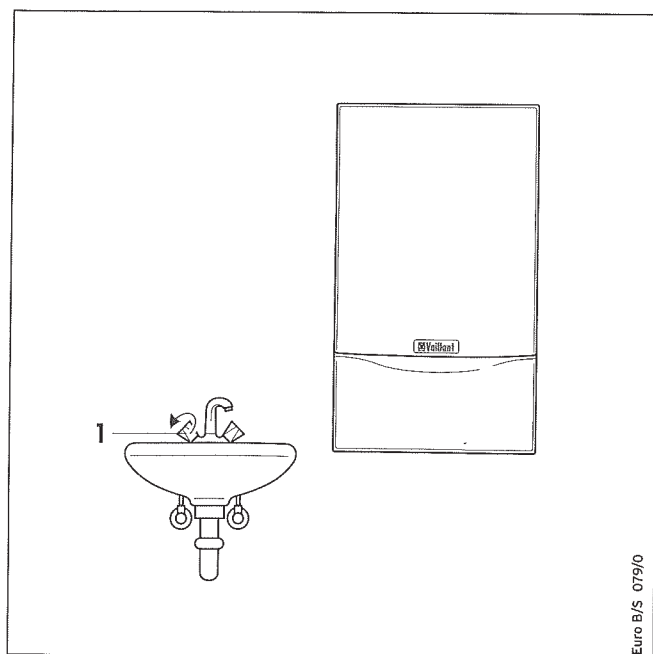

Fig. B.7 Obtaining hot water (ecoMAX 800 series only)
On opening a hot water tap (1) fig. B.7) at a supply point (basin, shower, bath, etc) the ecoMAX 800 series boiler will automatically operate to deliver hot water.